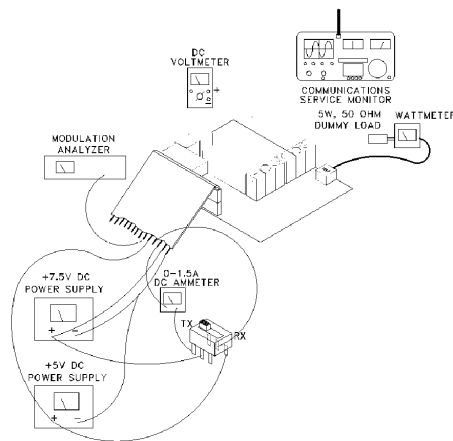

**Figure 6-1 TRANSMITTER TEST SETUP**
1. Connect the test setup shown in Figure 6-1. Set the power supply for +7.5V DC.
1. Connect the test setup shown in Figure 6-1. A DC ammeter capable of measuring up to 1.5A should be installed in the supply line.
1. Connect the test setup shown in Figure 6-1.